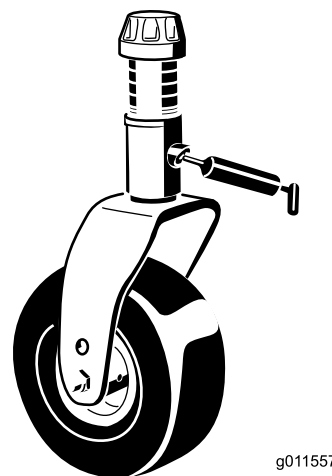

Figure 50
- 2 caster-fork-shaft bushings (Figure 50)